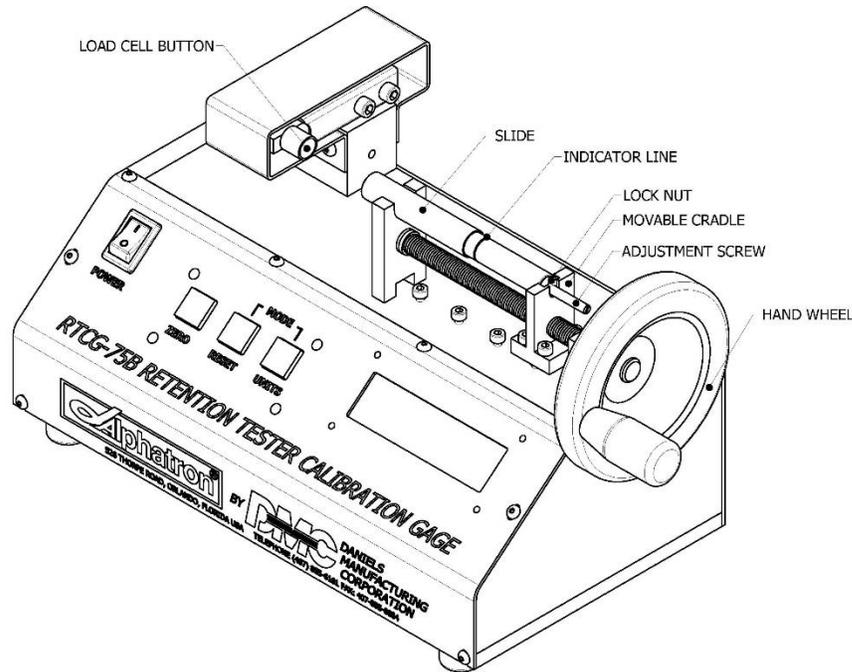

FIGURE 2
5. Load the HT tool into the fixture cradles, as shown in Figure 2. For HT250 tools, the end of the tool with the adjustment screw should be in the movable cradle. For HT210, HT240, & HT260 tools, the end of the tool with the socket tester (i.e. silver pin) should be placed into the movable cradle.